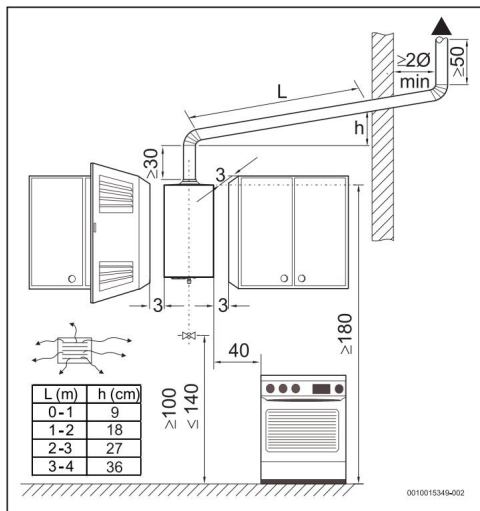

Fig. 11 Minimum distances (cm)
• Respect the minimum installation measurements indicated in the Fig. 11.
- Ensure good access during maintenance work, respecting the minimum distances indicated in Fig. 11.